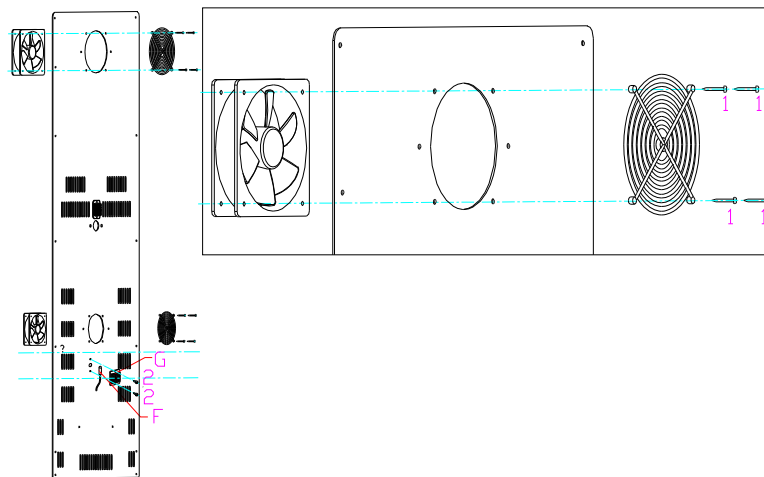
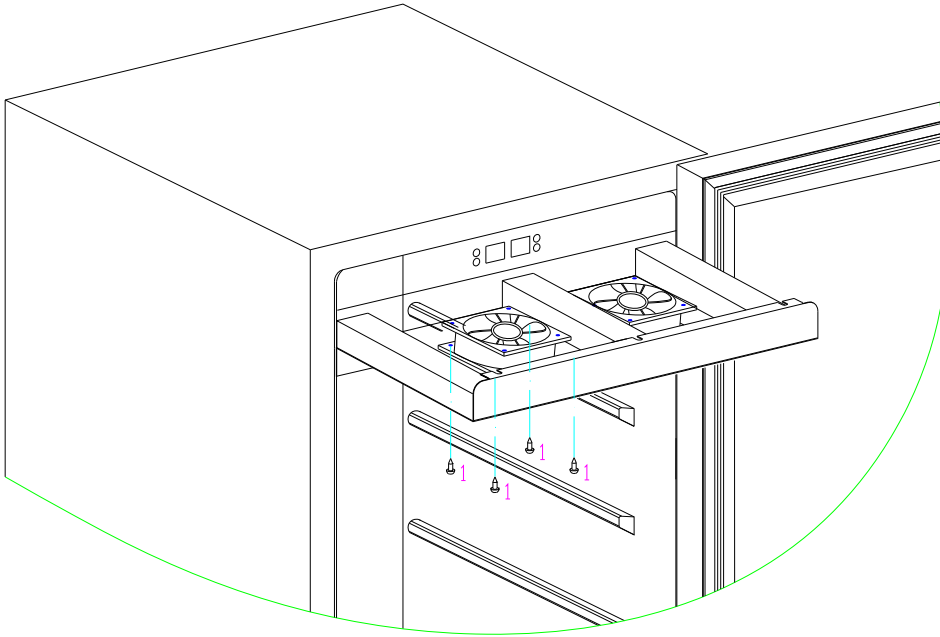

Fig. 6
Fig. 6.1
c. Remove 4 screws (1), then replace the fan. (Fig.6)
The way to replace fan after air duct board is as same as synchronous dual temperature wine cellar (→6) (Fig.6)
Solution: When the compressor is on, the indicator light on control panel is on, the fan should be running. If not, check the fan's connector & fan. Once the fan is fault, please replace a new one (→8) (Fig. 6 & Fig. 6.1 & Fig. 6.2 & Fig. 6.3)
- c. The evaporator fan is fault, please replace a new one. (→7) (Fig. 6& Fig.6.1)
whether plough, if not , replace the sensor with the same module. (→7) (Fig.6)
b . The LED display shows E8, and it is the lower compartment sensor's fault, check the connection wire and the main board whether plough; if not, replace the sensor with the same module. (→7) (Fig.6)
c . The LED display shows E1, and it is the upper compartment sensor's fault, check the connection wire and the main board whether plough, if not , replace the sensor with the same module. (→7) (Fig.6)
d . The LED display shows E2, and it is the upper compartment sensor's fault, check the connection wire and the main board whether plough, if not , replace the sensor with the same module. (→7) (Fig.6)
a . The LED display shows E1, and it is the upper compartment sensor's fault, check the connection wire and the main board whether plough, if not , replace the sensor with the same module. (→7) (Fig.6)
b . The LED display shows E2, and it is the upper compartment sensor's fault fault, check the connection wire and the main board whether short circuit; if not, replace the sensor with the same module. (→7) (Fig.6)
c . The LED display shows E3, and it is the lower compartment sensor's fault, check the connection wire and the main board whether plough, if not , replace the sensor with the same module. (→7) (Fig.6)
d . The LED display shows E4, and it is the lower compartment sensor's fault, check the connection wire and the main board whether short circuit, if not , replace the sensor with the same module. (→7) (Fig.6)
- 2>. Take our air duct board (→7) (Fig. 6& Fig. 6.1)